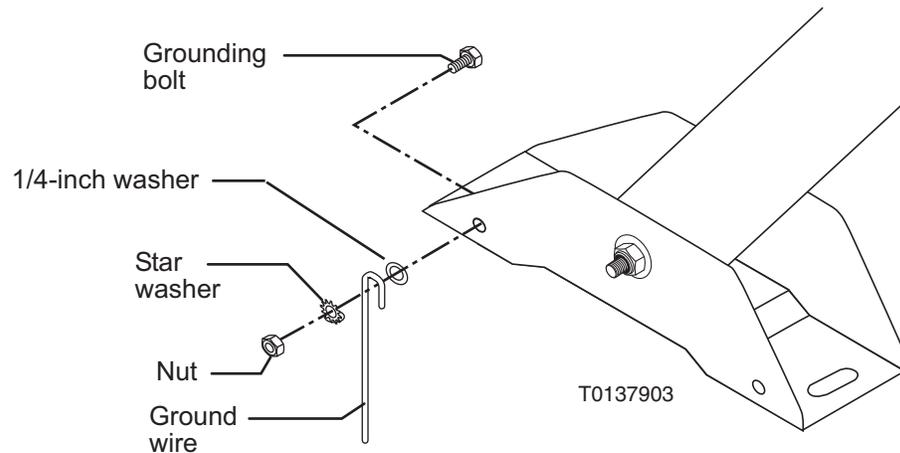

Figure 17: Grounding the multiswitch
9. Loosen the nut holding the 1/4-20 x 1/2-inch hex-head bolt installed in the grounding hole on the base plate. See Figure 17.